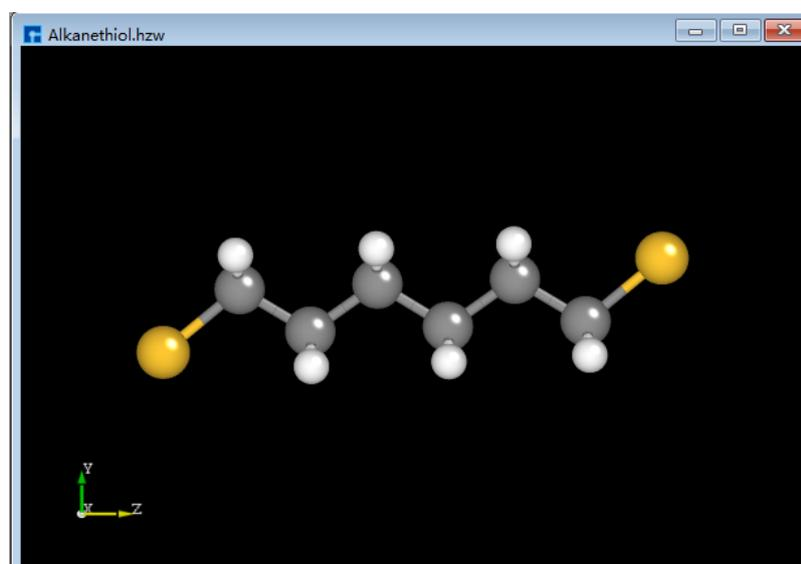

fig. 4.54: Alkanethiol molecule
- (1) Import the alkanethiol molecular structure as shown in fig. 4.54.